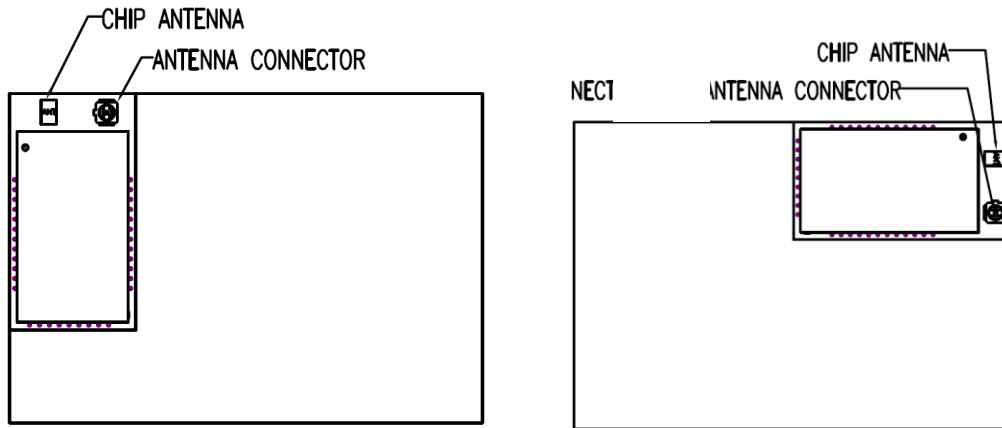
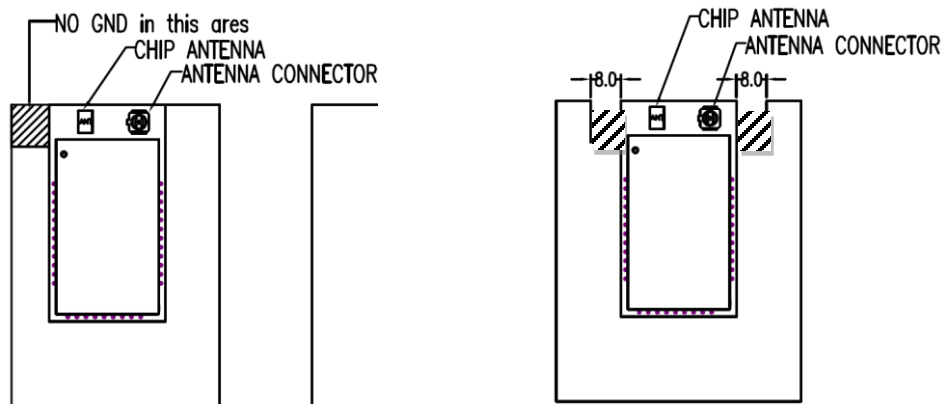

Figure 3: BT730-SA placement in the corner of host PCB.
Figure 4: BT730-SA placement in the edge (not corner) of host PCB (with modified antenna keep-out).
- For best antenna performance, place the BT730-SA module on the edge of the host PCB, preferably in the corner with the antenna facing the corner. An example shown in Figure 3.
host PCB and a modified antenna keep out must be observed. This antenna keep-out modification is shown in Figure 4 (antenna keep-out is extended by 8 mm on both sides).
2. For BT730-SA (with on-board chip antenna) best antenna performance, the module BT730-SA *must* be placed on the edge of the host PCB and preferably in the corner with the antenna facing the corner (see Figure 3 in section 6.3.1). The module is placed in the corner of host PCB above the keep-out area. If the BT730-SA is not placed in corner but on edge of host PCB, the antenna keep-out area must be modified (see Figure 4 in section 6.3.1).